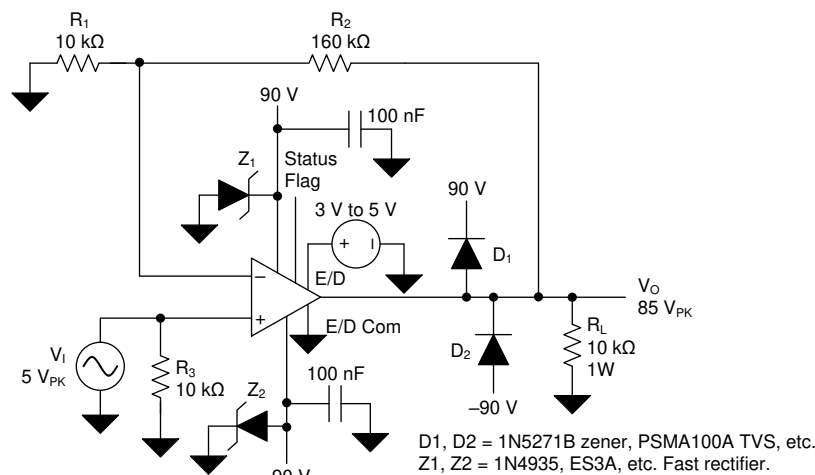

Figure 61. OPA462, High-Voltage Noninverting Amplifier,  $A_v = 17$  V/V
The OPA462 high-voltage op amp can be used in commonly applied op amp circuits, but with the added capability of allowing for the use of much higher supply voltages. A very common application of an op amp is that of a noninverting amplifier with a gain of 1 V/V or higher. Figure 61 shows the OPA462 in a noninverting configuration.
**Figure 61** shows a noninverting circuit with a moderately high closed-loop gain ( $A_v$ ) of 17 V/V (24.6 dB). In this example, a 5- $V_{PK}$  ac signal is amplified to 85  $V_{PK}$  across a 10-k $\Omega$  load resistor connected to the output. The peak current for this application is 8.5 mA, and is well within the OPA462 output current capability. Higher output current, typically up to 30 mA, may be attained at the expense of the output swing to the supply rails. A  $\pm 90$ - $V_{DC}$  power supply is required for this configuration.
A potentially destructive mechanism is the back EMF transient that can be generated when driving an inductive load.  $D_1$ ,  $D_2$ ,  $Z_1$  and  $Z_2$  in **Figure 61** have been added to the basic OPA462 amplifier circuit to provide protection in the event of back EMF. If the voltage at the OPA462 output attempts to momentarily rise above  $V+$ ,  $D_1$  becomes forward-biased and clamps the voltage between the output and  $V+$  pins. This clamp must be sufficient to protect the OPA462 output transistor. If the event causes the  $V+$  voltage to increase the power supply bypass capacitor,  $Z_1$ , or both, a Zener diode or a transient voltage suppressor (TVS) can provide a path for the transient current to ground.  $D_2$  and  $Z_2$  provide the same protection in the negative supply circuit.
The OPA462 noninverting amplifier circuit with a closed-loop gain of 17 V/V has a small-signal, –3-dB bandwidth of nearly 800 kHz. However, the large-signal bandwidth is likely of greater importance in a high-output-voltage application. For that mode of operation, the slew rate of the op amp and the peak output swing voltage must be considered in order to determine the maximum large-signal bandwidth. The slew rate (SR) of the OPA462 is typically 6.5 V/ $\mu$ s, or  $6.5 \times 10^6$  V/s. Using the 85- $V_{PK}$  output voltage available from the circuit in **Figure 61**, the maximum large-signal bandwidth is calculated from the slew rate formula. Equation 1, Equation 2 and Equation 3 show the calculation process.